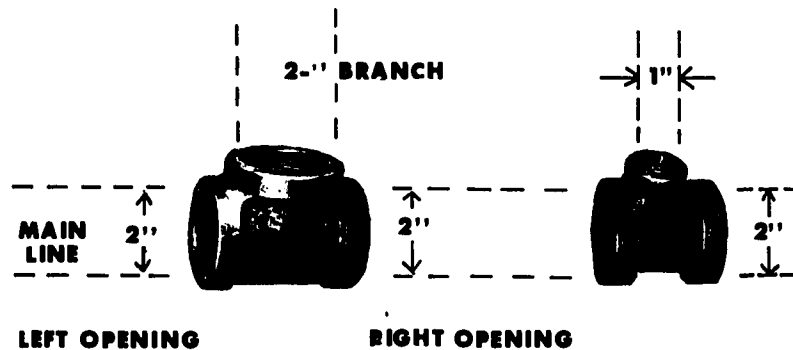

Fig 1-22. Straight tee (2 x 2 x 2 inch) and (2 x 2 x 1 inch) reducer tee.
The size of the fitting is determined by the size of the pipe it is going on. A 1-inch pipe requires a 1-inch fitting or 1 inch I. P. S. (iron pipe size). Male fittings have threads on the outside of the fitting and female fittings have threads on the inside of the fitting. You identify fittings by the name of the fitting and the size of the openings in the fitting. Read from left to right on the main line and then the branch line. To identify the fitting in figure 1-22, we would think to ourselves, "a 2-inch opening on the left side of the main line, a 2-inch opening on the right side of the main line, and a 2-inch opening in the branch line." This would read as a 2 x 2 x 2 inch tee fitting or a 2 x 2 x 2 inch straight tee fitting. It is called a straight tee because the branch opening is the same size. If the branch opening were a smaller size, it would be called a reducer tee.
- o Tee: This fitting is used if you need to run a branch line from a main pipe at a 90° angle while still maintaining your original run. It is also used to install gages or faucets on the branch opening. Figure 1-22 shows the most common type tee, a straight tee.